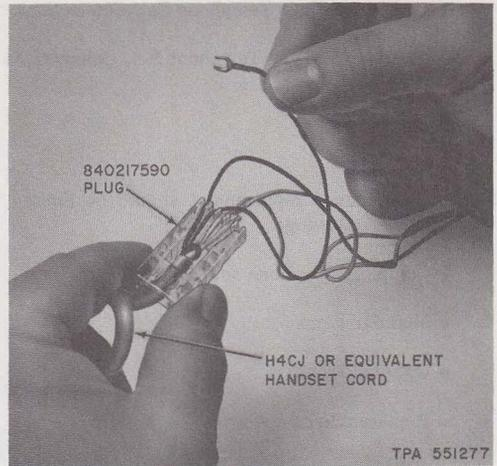

Fig. 17—Installing Spade-Tipped Handset Cords in Early Production Sets
3.17 Installation of Spade-Tipped Handset Cords In Early Production Set Equipped With G12A Handset (Fig. 17):